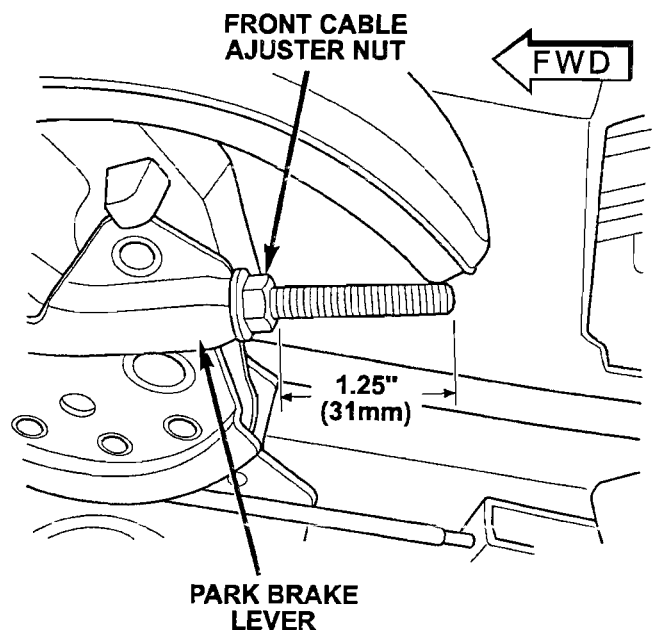

Figure 6
17. Tighten the front cable adjuster nut until there is 1.25 inches (31mm) of threads showing (Figure 6).